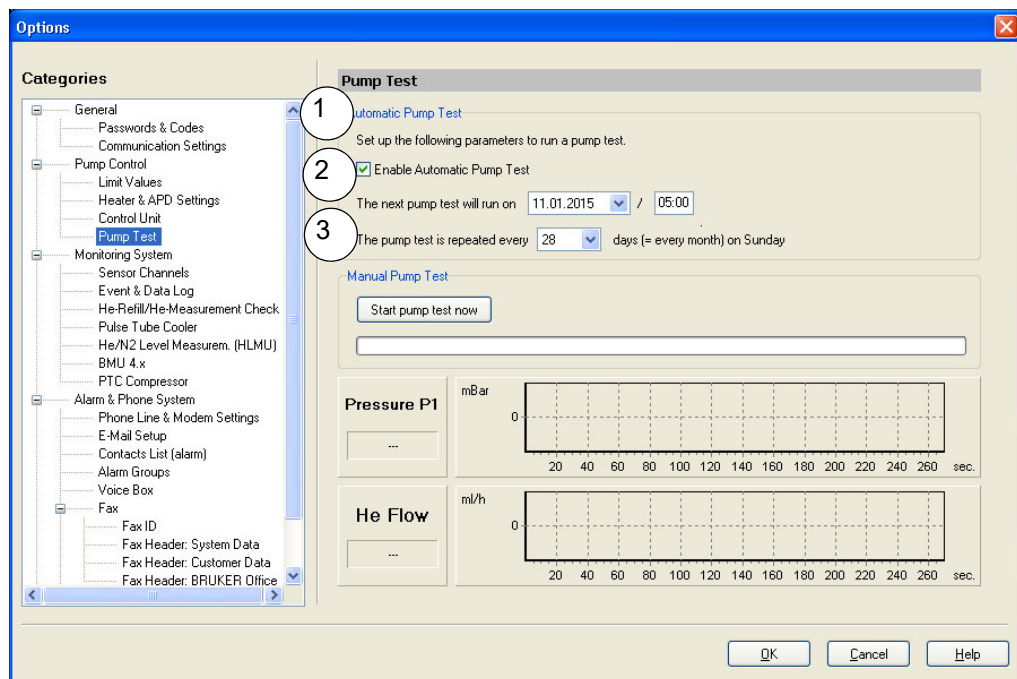

Figure 8.19: Tools - Options - Control Unit - Pump Test - Configuration
3. Check the "Enable Automatic Pump Test" checkbox (Figure 8.19: 1).
4. Select the date and time for the next test (Figure 8.19: 2).
5. Select the interval for the test (Figure 8.19: 3). A pump test once a month (every 4 weeks) is recommended.